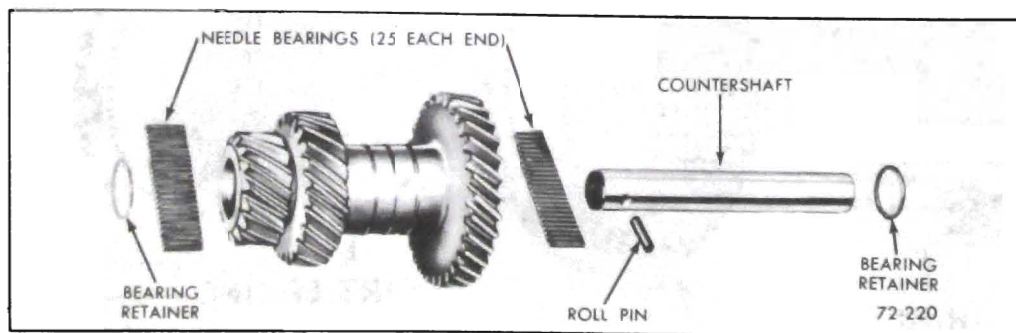

Figure 72-220 - Exploded View of Countergear
2. Assemble the countergear alignment Tool J-21775, bearings, thrust washers, and place in bottom of case. The countergear will remain in the bottom of the case until the mainshaft and main drive gear have been installed. See Figure 72-220.